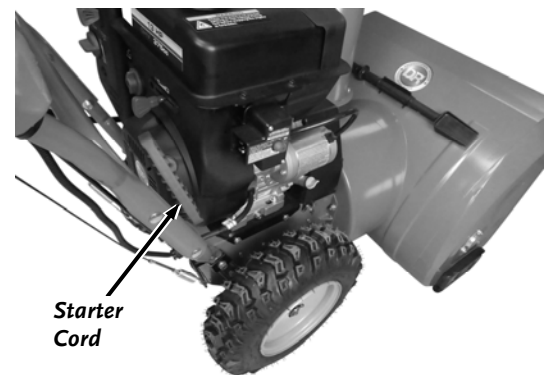

Figure 30
6. Slowly pull the Starter Cord until you feel resistance, then pull quickly (**Figure 30**). The Cord will recoil back into position when released.